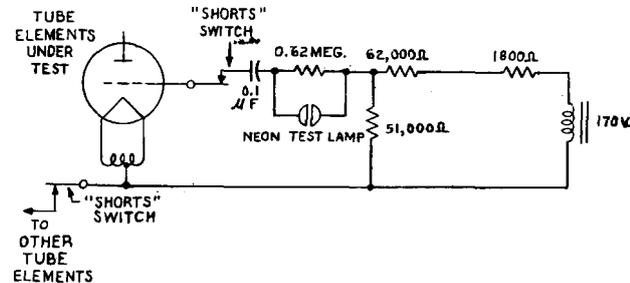

Fig. 1 - Shorts Test Circuit
2.16 SHORTS Test Switch: On a 6-position selector switch designated SHORTS, five steps are provided to make short-circuit tests between various electrodes of the tube under test, using the neon lamp test circuit indicated in simplified form in Fig. 1. This shorts test may be made with the tube filament (or heater) on or off, but usually is made with the filament (or heater) heated. In the sixth position labeled TUBE TEST the neon lamp short test circuit is disconnected and the tube under test is connected for indicated transconductance, cathode (filament) activity, and other tests.